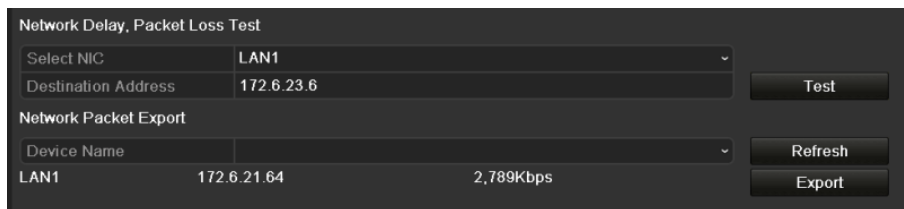

Figure 12-26 Network Detection Interface
Step 2 Click the **Network Detection** tab to enter the Network Detection menu, as shown in Figure 12-26.